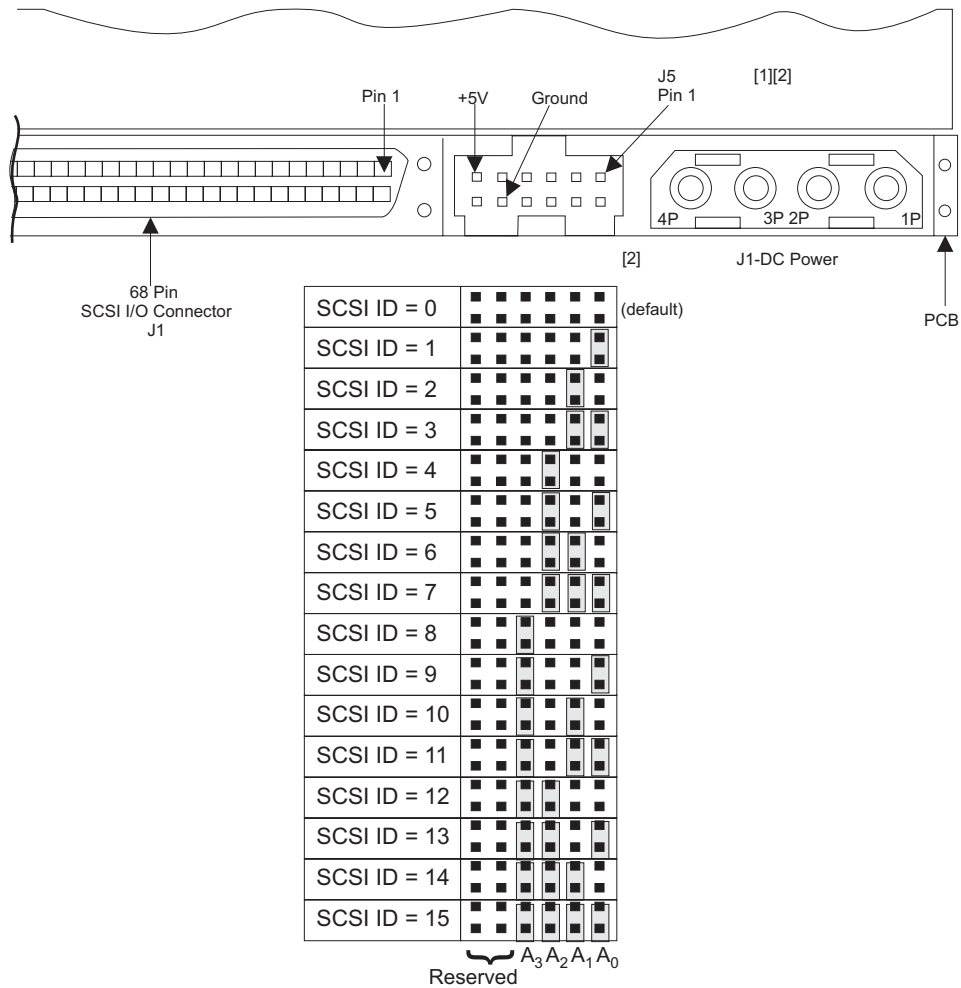

Figure 83. Disk drive jumpers
9. Check whether the old disk drive has any jumpers installed. If it does, install matching jumpers onto the new disk drive. See Figure 83.